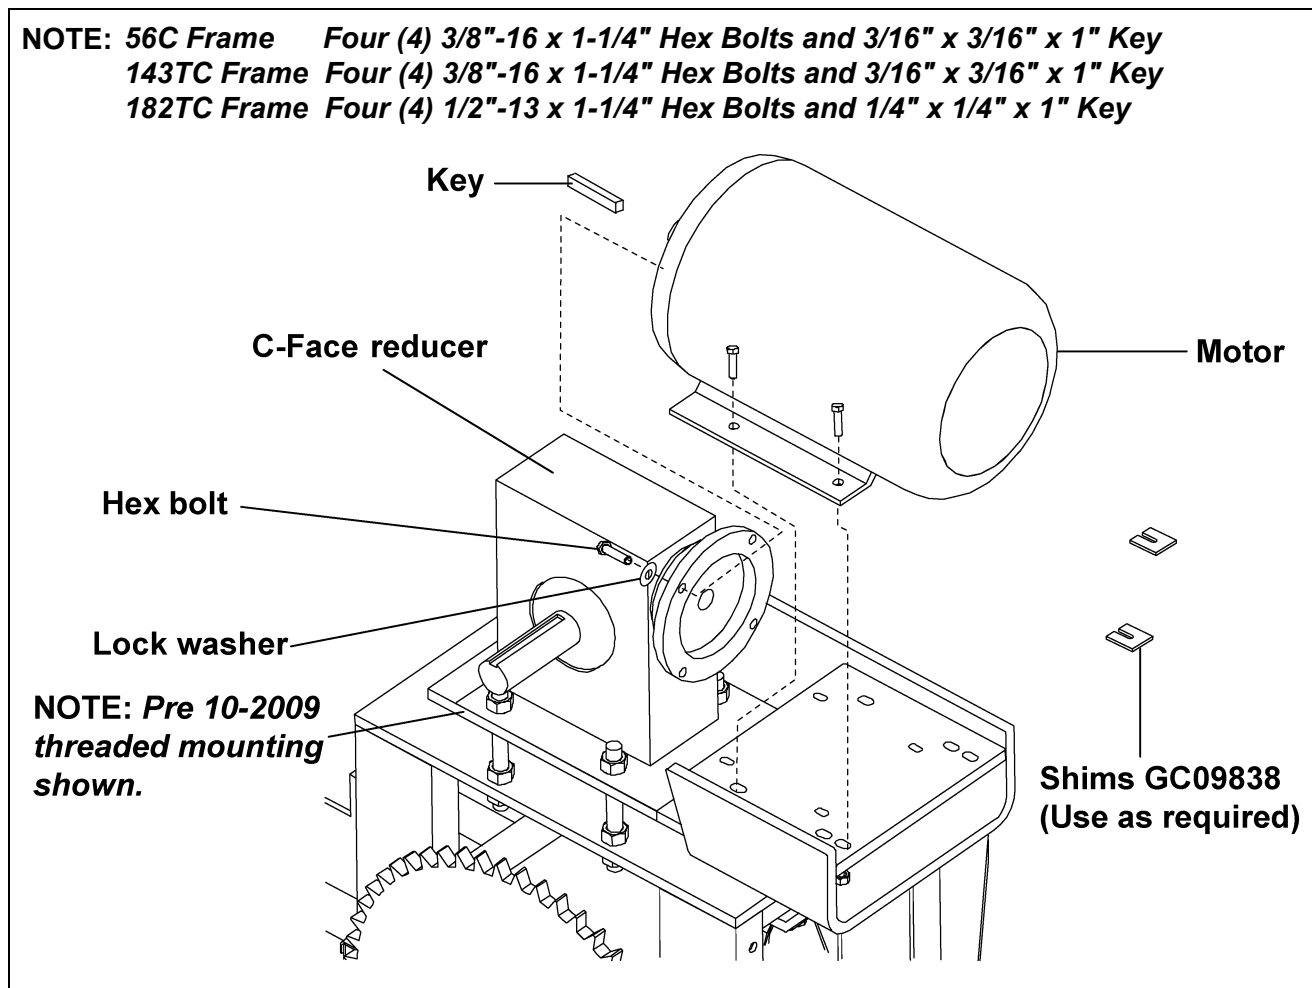

Figure 5P
A. Bolt the C-Face motor to the reducer using hex bolts, lock washers and a key. (See Figure 5P on Page 35.) (See the note on Page 35 for bolt size.)
- C. Assemble the Bottom Chain Guard Trap to the Bottom Chain Guard Weldment using 1/2" x 3" HHCS bolts, 1/2" split lock washers and 1/2" hex nuts. \(See Figure 5P.\)